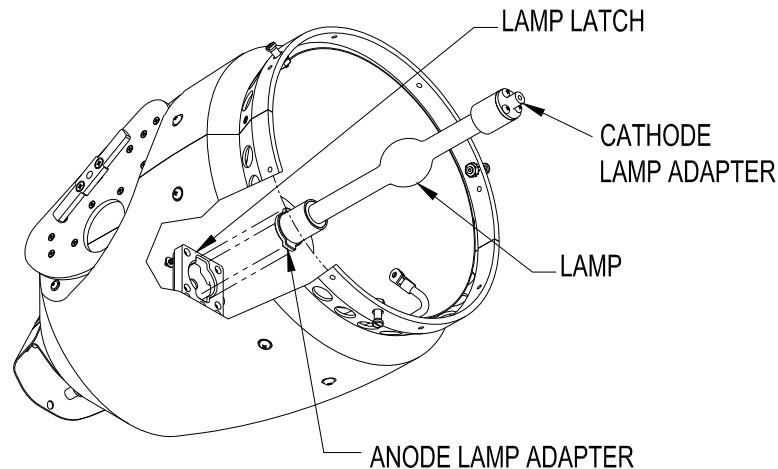

Figure 37 Removing the Lamp
- The anode (inner) end of the lamp is seated in an anode lamp adapter (Figure 37). This anode lamp adapter has two small tabs located at its base (you cannot see them while the lamp is seated). These tabs are held in place against the inside of the lamp latch.